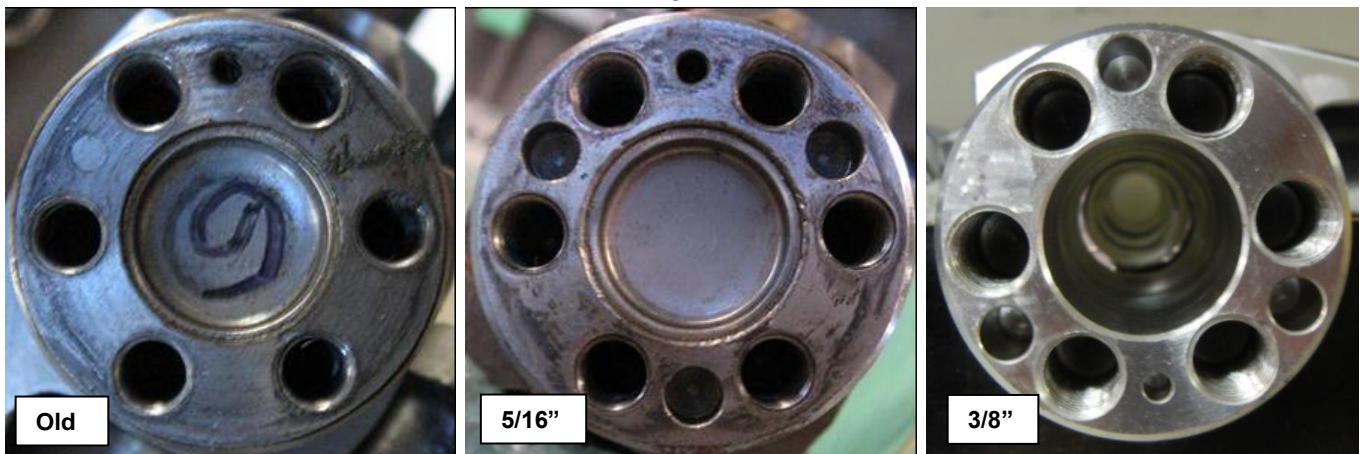

Figure 64 – Crankshaft End Detail (Dowel Holes)
- Engines with the “starfish” flywheel are retained with 6 x 5/16” x 1” or 6 x 3/8” x 1” UNF cap screws. The flywheel end of the crankshaft should look like the “5/16”” or “3/8”” photos in Figure 64.